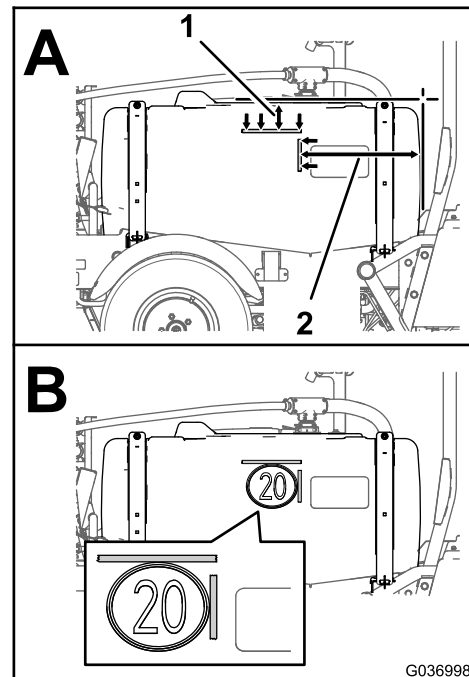

Figure 12
1. At the left and right sides of the tank, measure from the top of the sprayer tank downward approximately 120 mm (4-3/4 inches) and mark that location on the tank with a piece of tape (A of Figure 12).
2. At the left and right sides of the tank, measure from the front of the sprayer tank rearward approximately 469 mm (18-7/16 inches) and mark that location on the tank with a piece of tape (A of Figure 12).
4. Align the top and forward edges of the sprayer decal (B of Figure 12) with the tape marks that you made in steps 2 and 1.